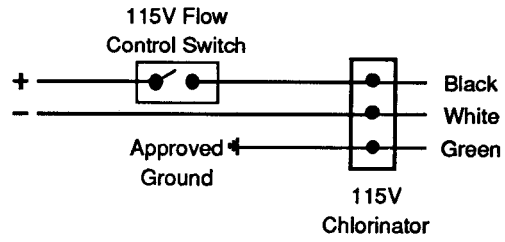

Figure 4
2. Select the wire schematic diagram to be followed from Figures 4 thru 8 and circle for future reference.